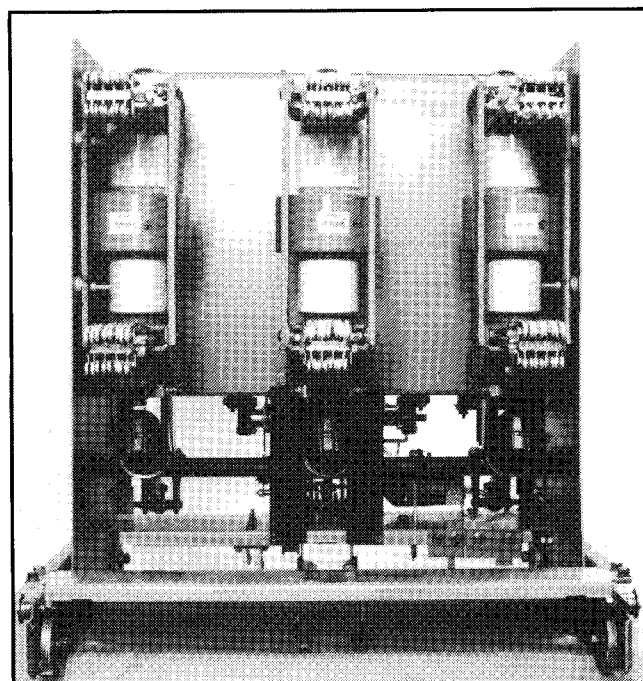

Figure 51. Rear View Showing Outer Phase Barriers.
2. Remove any interphase and outer phase barriers as shown in **Figure 51**.